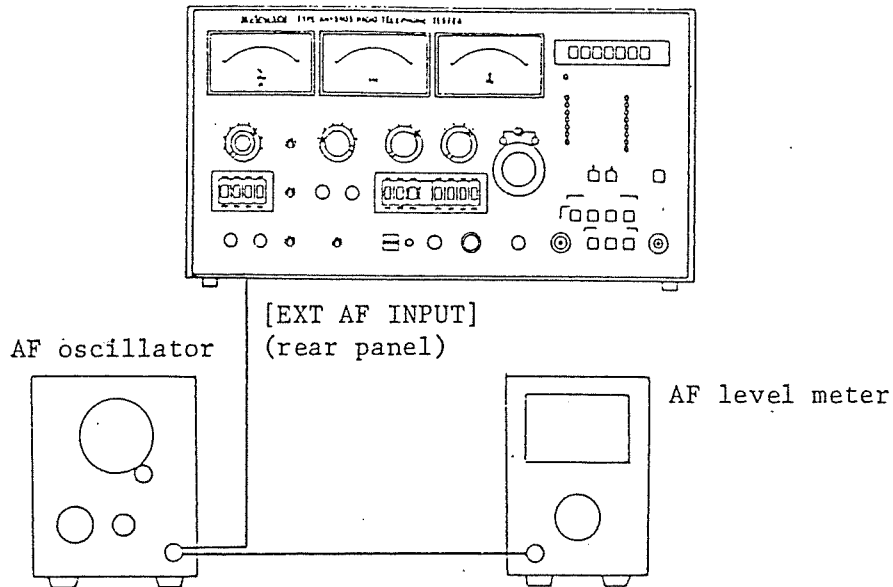

Fig. 3-7 External modulation input level test
- (1) Connect a AF oscillator to the [EXT AF INPUT] terminal located on the rear panel of this apparatus as shown in Fig. 3-7.
- (2) Set the controls of this apparatus as follows: